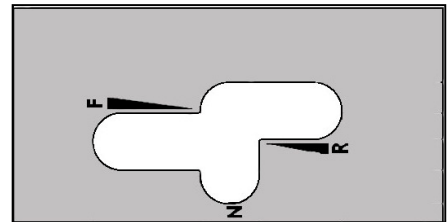

FIG. 34-1
1. Position the hydrostatic lever to “N” (neutral) position (fig. 34-1).